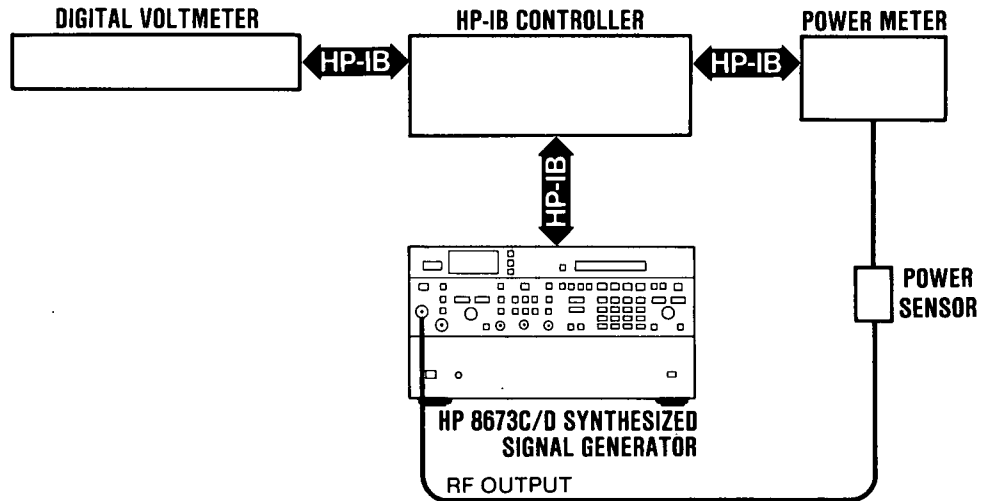

Figure 5-41. Flatness and ALC Adjustment Test Setup
3. Connect the equipment as shown in Figure 5-41.